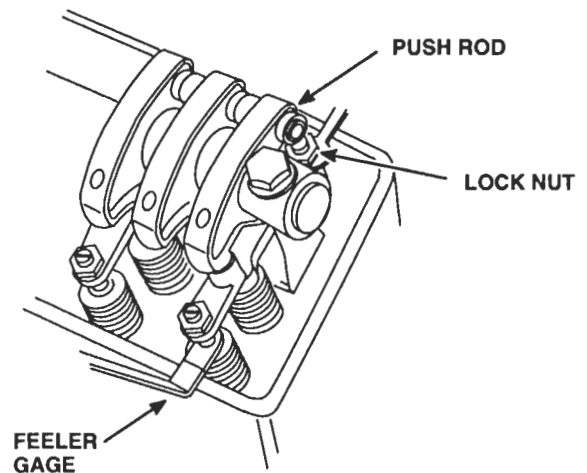

Figure 2. Adjusting Valve Clearance (Spring-Loaded Valve Bridge)
5. Place a .016 inch feeler gage (J 9708-01) between the end of the exhaust valve stem and the valve bridge adjusting screw (spring-loaded bridge only – Figure 2.)